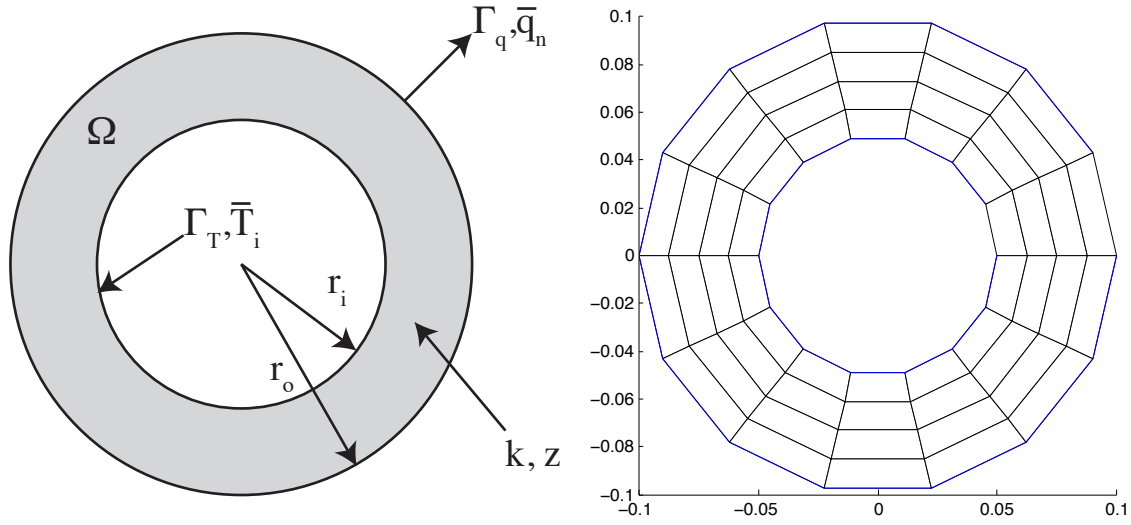

Figure 1: Radially symmetric annulus and sample mesh
1. **Construct a mesh of the problem domain in Figure 1.** Use 4-node linear quadrilateral elements. Evenly distribute the mesh in r and θ . Your method should be able to vary r_i, r_o as well as the number of elements in the radial and angular directions as input parameters. Your meshes should look like the mesh in Figure 1. *MIND THE CONNECTIVITY OF THE MESH:* It does a loop, the elements need to connect in a ring.
for some constant coefficients C_1, C_2 . (To emphasize, this is just to solve the problem analytically: your finite element formulation must still be in cartesian coordinates.) Consider the domain in Figure 1. Let the radii be given by $r_i = 0.1, r_o = 0.25$, the internal temperature by given by $\bar{T}_i = 100$, outer heat flux $\bar{q}_n = -25$, uniform conductivity $k = 0.04$, and source term $z = -500$,
- I used the following Matlab command to make the mesh plot in Figure 1: